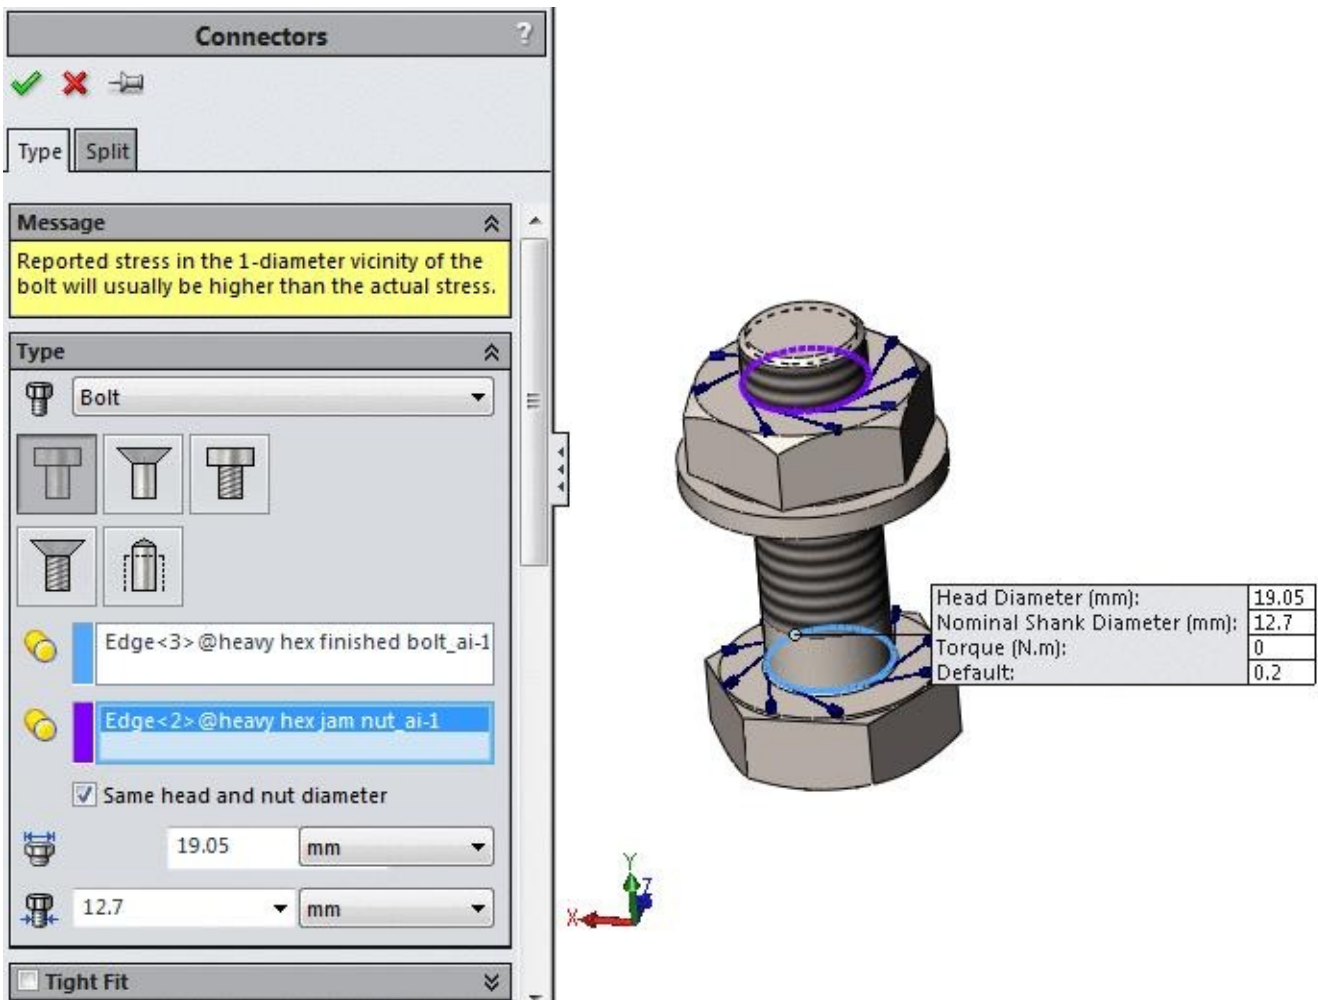

Figure-75. Preview of bot connector after selection
- Click in the next selection box in the rollout and select the round edge of the nut. Preview of the bolt connector will be displayed; refer to Figure-75.